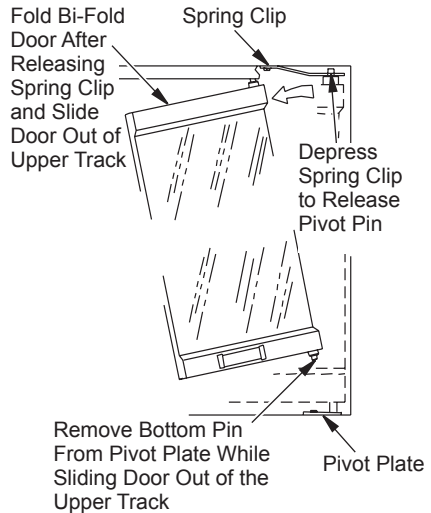

Figure 35 - Removing Glass Doors
2. Fully fold the frame assembly and slide the upper edge towards the center of the firebox opening until the guide pins are free of the frame rail (see Figure 35).